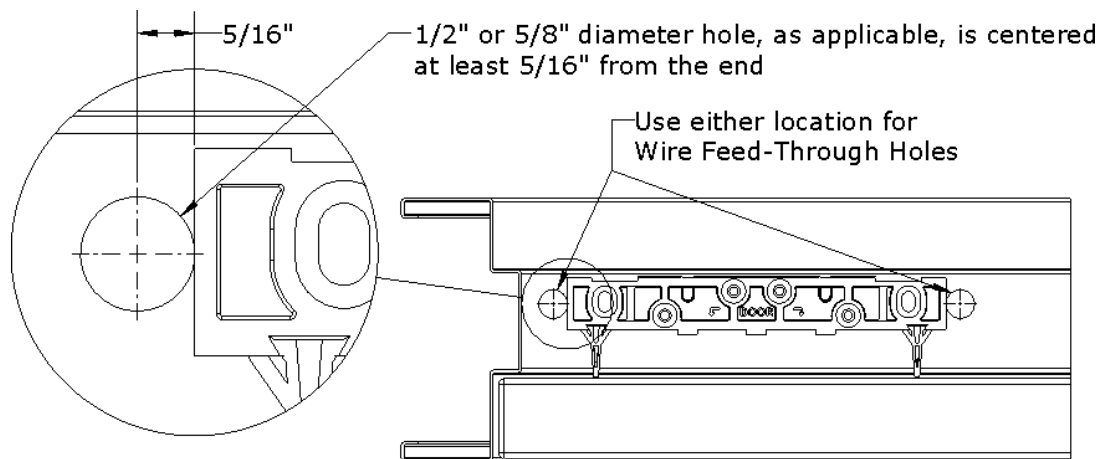

Figure 8. Position of Wire Feed-Through Holes
5. MARK the frame for wire feed-through hole at the end closest to where the wire run will be accessed, and ENSURE the hole marking is centered at least  $5/16$ " from the end (see Figure 8, "Position of Wire Feed-Through Holes").